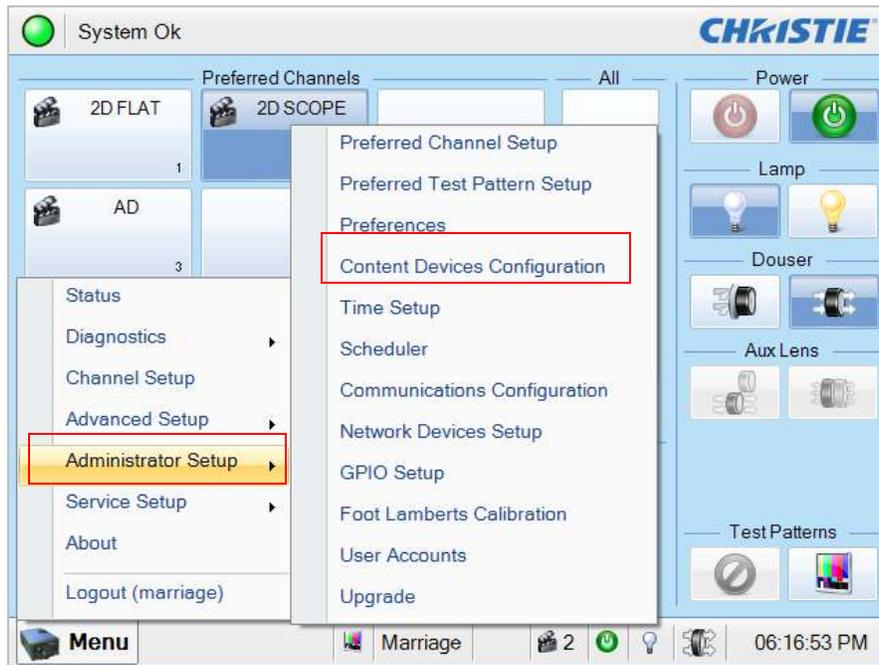

Figure 27 Content Devices Configuration
3. Select **[Menu]** → **[Administrator Setup]** → **[Content Devices Configuration]** (as Shown in Figure 27)